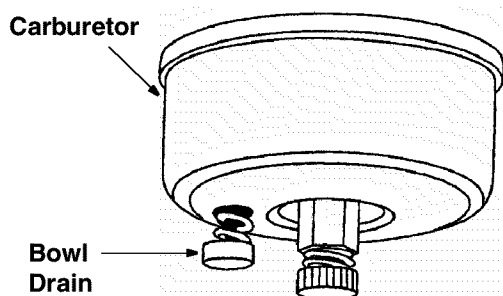

Figure 30
- Drain carburetor by pressing upward on bowl drain, located below the carburetor cover. See Figure 30.